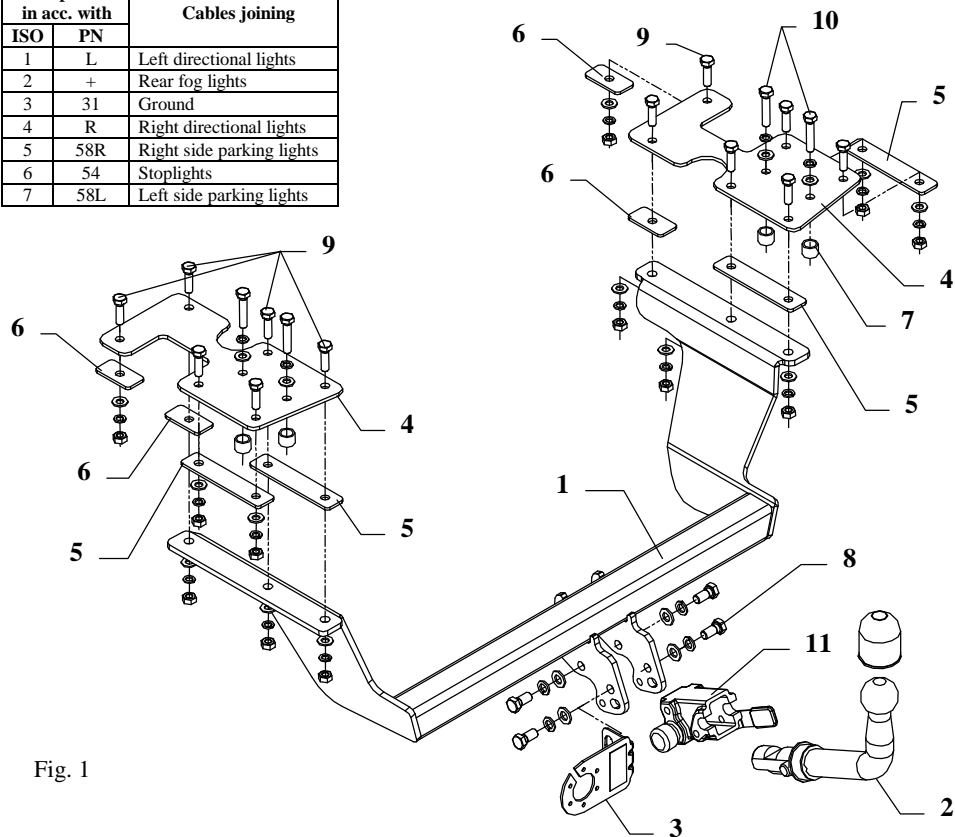
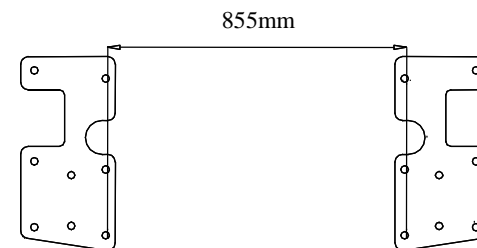

Fig. 1
Fig. 2
- Apply fish-plates (pos. 4) such way, so holes, in which enter bolts M10x1,25x50mm (pos. 10) overlapped on holes, which were previously unscrewing bolts fastening arms of the bumper. Then marked the contour of fish-plates and after this put aside fish-plates – inside contours remove the anti-noise layer. Put fish-plates (pos. 4) in this way, so holes for bolts M10x1,25x50mm (pos. 10) agree with holes after disassembly of towing hitch brackets. Mark contour of the fish—plates, next take them of and remove protective layer from inside of contour.
- On fastening arms of the bumper put distance sleeves L=16mm (pos. 7). Then apply again fish-plates (pos. 4) and fix with bolts M10x1,25x50mm (pos. 10) as showed on the fig. 1.
- Attention! Make sure whether fish-plates lay as one showed on the fig. 2.**
- By remaining holes of fish-plates (pos. 4) drill through holes $\varnothing 10,5\text{mm}$. Then into all holes insert bolts M10x35mm (pos. 9).
- From the bottom of the car on protruding bolts put distance washers (pos. 5 and 6) and the main bar of the towing hitch (pos. 1) and fix as showed on the fig. 1. .
- To so prepared towing hitch fix body of the automat (pos. 11) and the socket plate (pos. 3) using bolts M12x25mm (pos. 8) from accessories. Place tow-ball (pos. 2) according to supplied instruction.